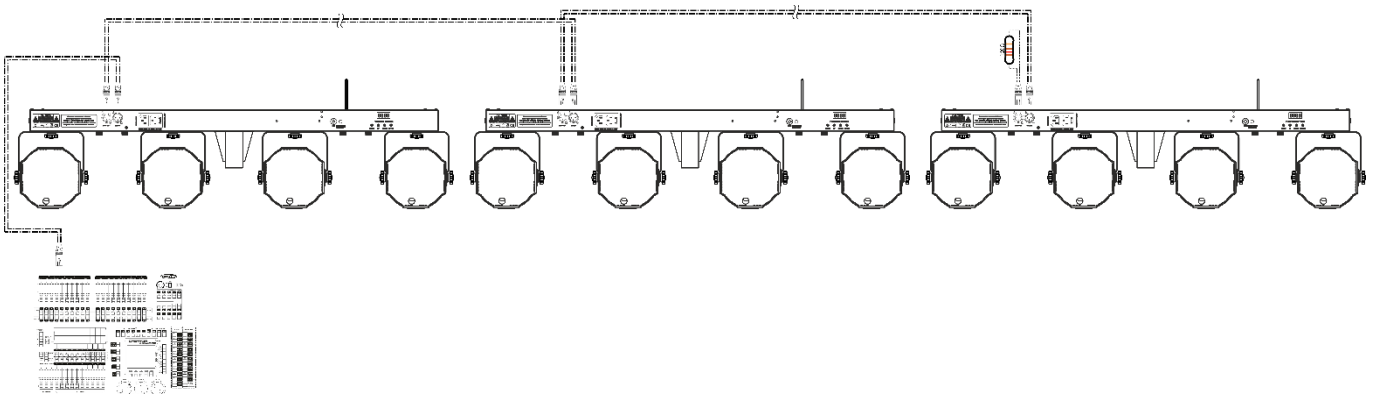

Fig. 03
- 05) Link the units as shown in Fig. 03, Connect a DMX signal cable from the first unit's DMX "out" socket to the second unit's "in" socket. Repeat this process to link the second, third, and fourth units.